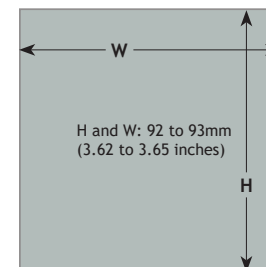

Figure 1
- Make the panel cutout using the measurements in Figure 1.